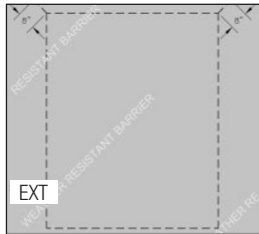

FIG. 3
- G) Cut the weather-resistant barrier (WRB) along the perimeter of the rough opening. Ensure the WRB is cut flush with the sheathing and is not wrapped into the rough opening. (Fig. 3)
- H) From the exterior, cut the top of the WRB to form a flap. (Fig. 3)